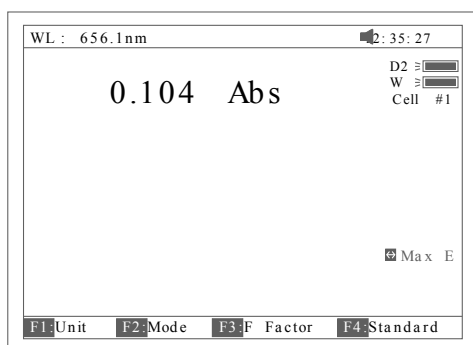

Fig 20
- Push the blank cuvette into the light path. Press [F2] to select Abs mode, Press [0Abs/100%T] for Blanking, and then push the sample into lightpath to take reading (Fig 20)